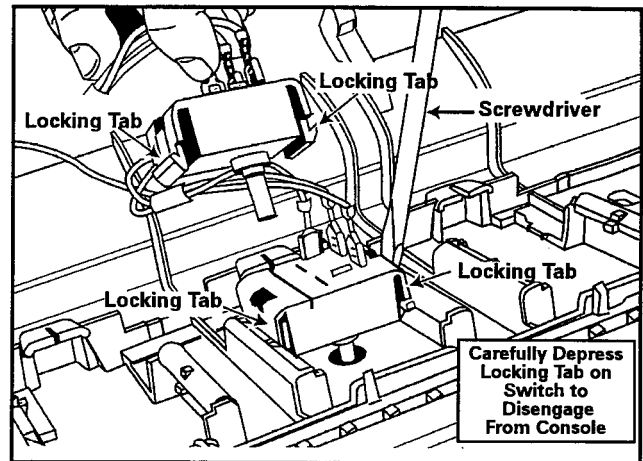

Figure 4-6
1. **To remove** - Depress the locking tab on the switch to disengage the switch from the locking tab on the console. Pivot the switch from the console, (See Figure 4-6).